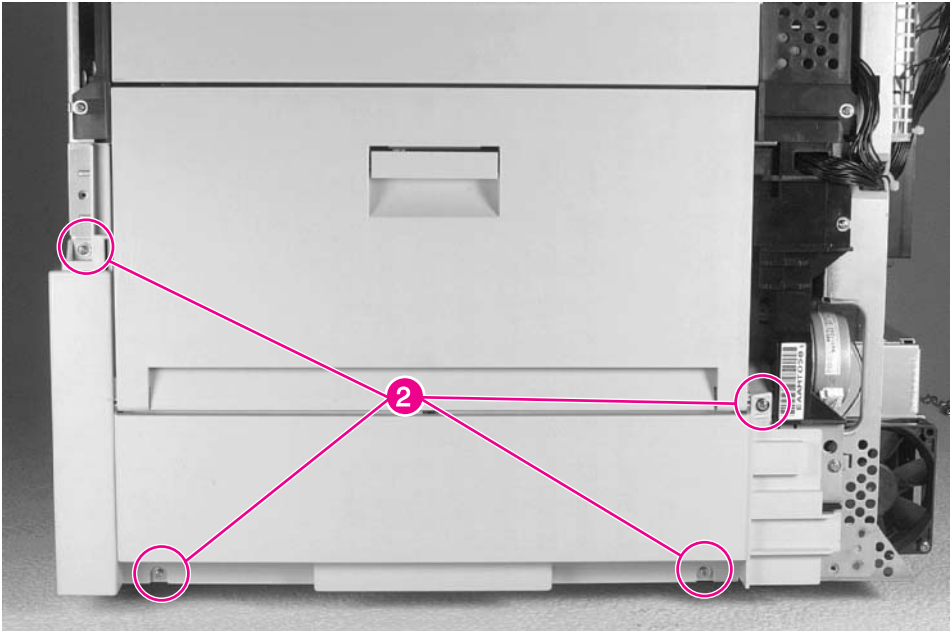

Figure 6-17 **Right Lower Door Assembly (2 of 3)**
- 4** Remove 4 screws (figure 6-17, callout 2).